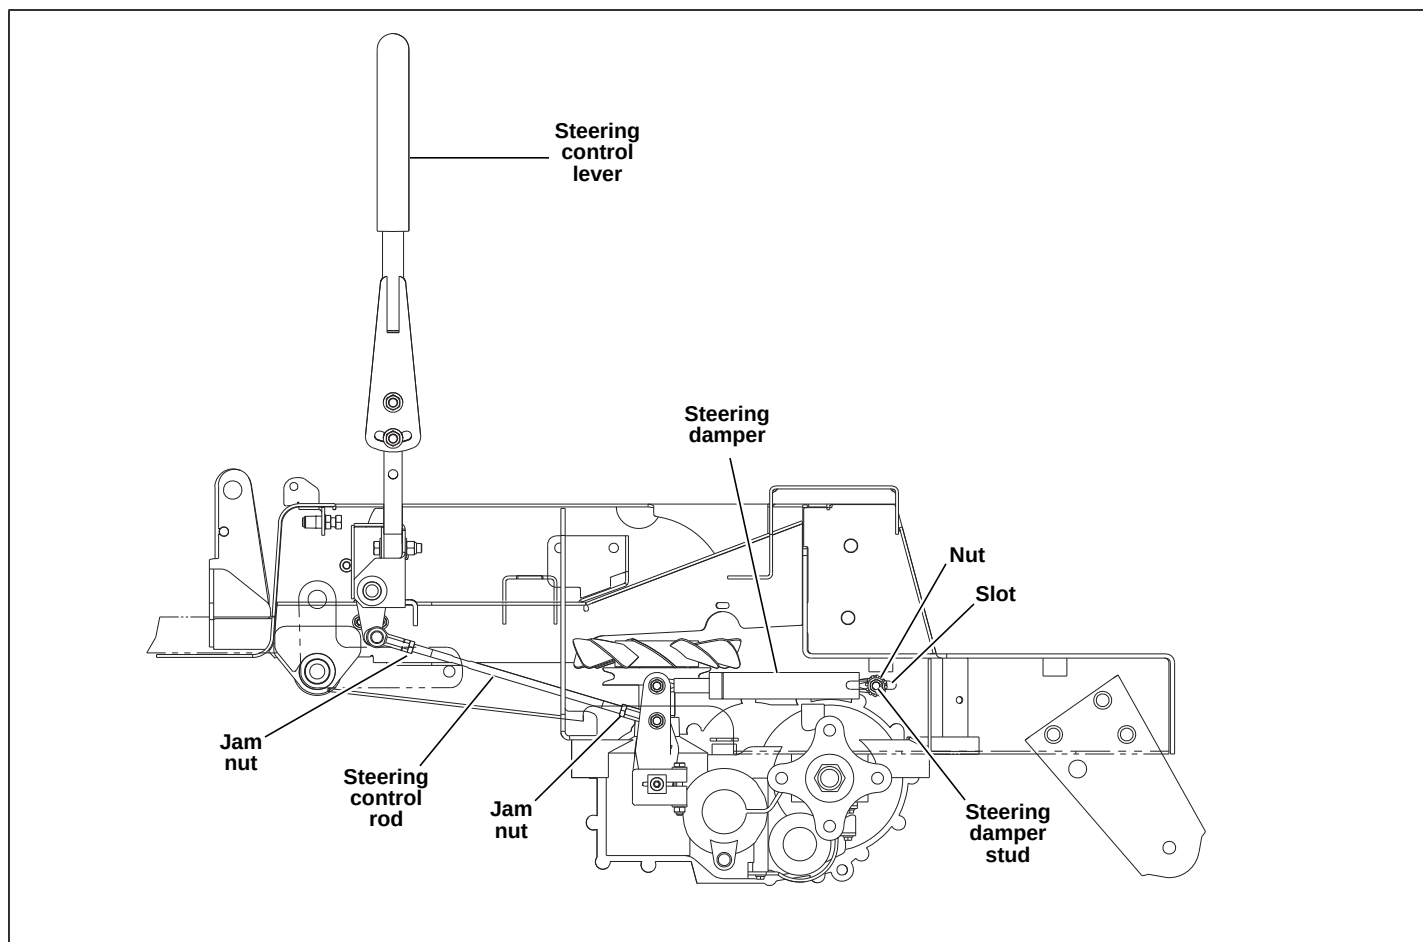

Figure 4-5
4. Loosen the jam nuts on each end of the steering control rod assemblies. Figure 4-5
The dampers must be allowed to slide in the slots in the mower frame. Figure 4-5
8. Beginning with the right side of the mower, adjust the steering control rod so that the right side wheel starts rotating forward while holding the steering control lever in the neutral position. Now, adjust the steering rod back the opposite direction to the point when the wheel stops rotating. From that point, turn the steering rod an additional $\frac{1}{2}$ turn in the same direction. This ensures that the steering rod is adjusted so that the transmission control arm is centered in the neutral band of the transmission. Figure 4-5
11. Tighten the jam nuts on the steering control rod. Figure 4-5
Tighten the nut on the damper's rear ball stud. Once this nut is tightened, when the steering control lever is in the reverse position and then released, the steering control lever should return to the neutral position. Figure 4-5